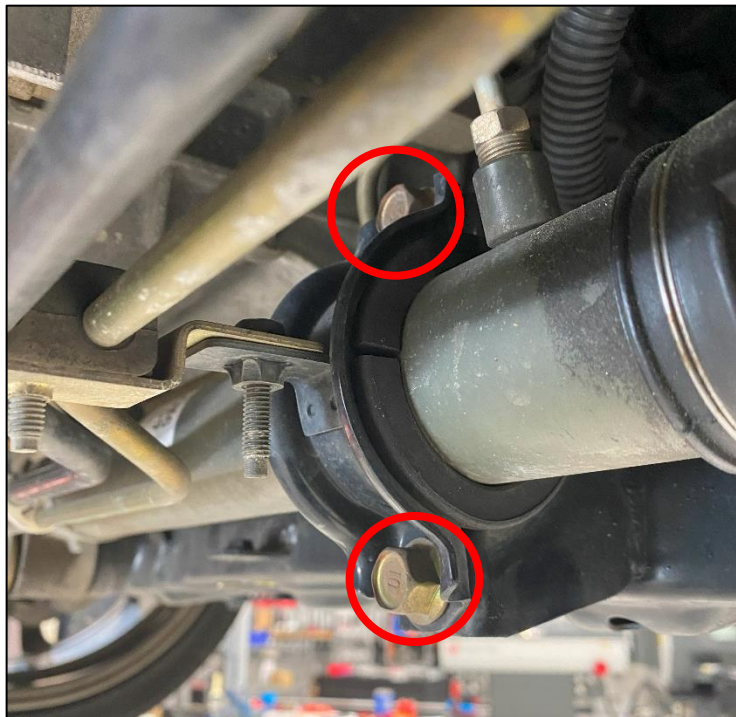

Figure 3
8. Remove the (2) two bolts that secure the OE Rack Mounting Bracket onto the Steering Rack. *Figure 3.*